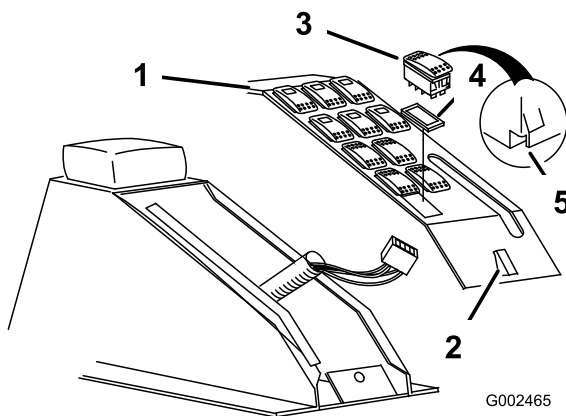

Figure 17
1. Remove the spray control panel to expose the bottom side (Figure 17).
2. Remove the plug in the sonic boom slot from the spray control panel on the vehicle and install the rocker switch provided in its place (Figure 17).
Note: Ensure that the orientation of the switch matches what is shown in Figure 17, with the notch pointing toward the front of the vehicle.